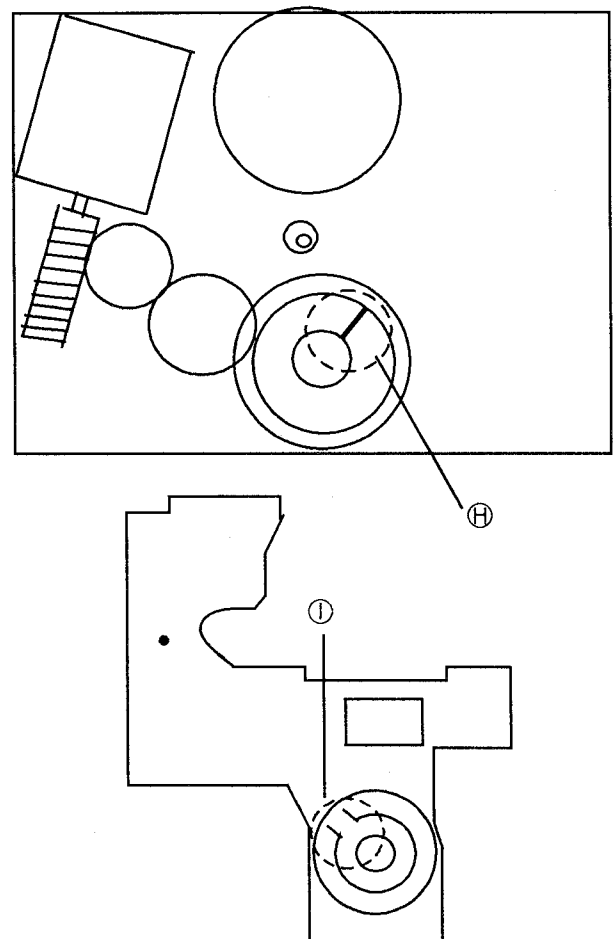

Figure 7 Gear position
- (When installing the CAM switch gears, assemble the PCB so that part ④ meets part ①. figure7)